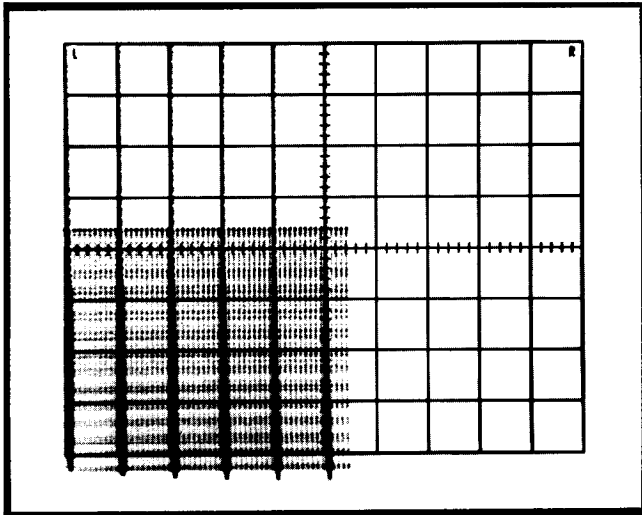

Fig. 5-4. Typical CRT display when checking sweep length.
d. CHECK—CRT display sweep length for 10.4 divisions within 0.3 division; see Fig. 5-4. (There should be between one and seven .1 ms markers past the eleventh 1 ms marker.)